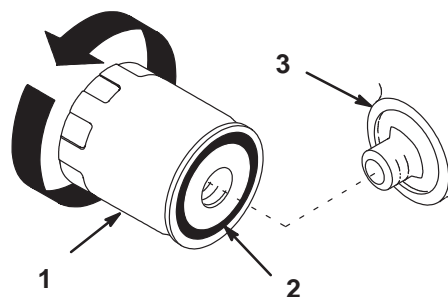

Figure 21
2. Remove the old filter and wipe the filter adapter (Fig. 21) gasket surface.
5. Apply a thin coat of new oil to the rubber gasket on the replacement filter (Fig. 21).
6. Install the replacement oil filter to the filter adapter. Turn the oil filter clockwise until the rubber gasket contacts the filter adapter, then tighten the filter an additional 1/2 turn (Fig. 21).